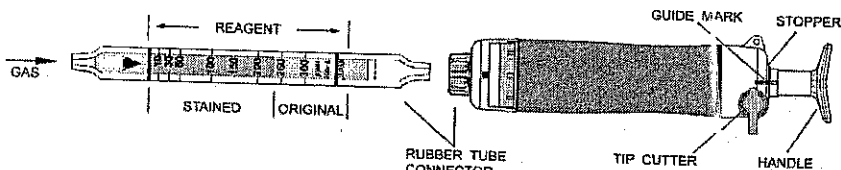

Fig.1
- ① Break both ends of the detector tube.
- ② Insert the detector tube into the aspirating pump securely as shown in Fig.1. (Arrow mark shall point to the pump.)
- ③ Align the guide marks on the shaft and stopper of the aspirating pump.
- ④ Pull the pump handle at a full stroke until it locks and wait for 1.5 minutes or until the completion of sampling is confirmed with the flow indicator of the pump (See descriptions about the flow indicator in the instruction manual of the pump).
- ⑤ Turn the pump handle right or left by 1/4 (90°), push back the handle without removing the detector tube from the pump. Then repeat the steps ③~④ once more.
- ⑥ On completion of sampling, read the scale at the maximum point of the stained layer.
- ⑦ When the concentration is below the scale range, 4 pump strokes can be used to determine concentrations of 4 to 120 ppm.
- At this point, turn the handle right or left by 1/4 (90°), push it toward the pump without removing the detector tube from the pump and then repeat the step ③~④ for another 2 times.